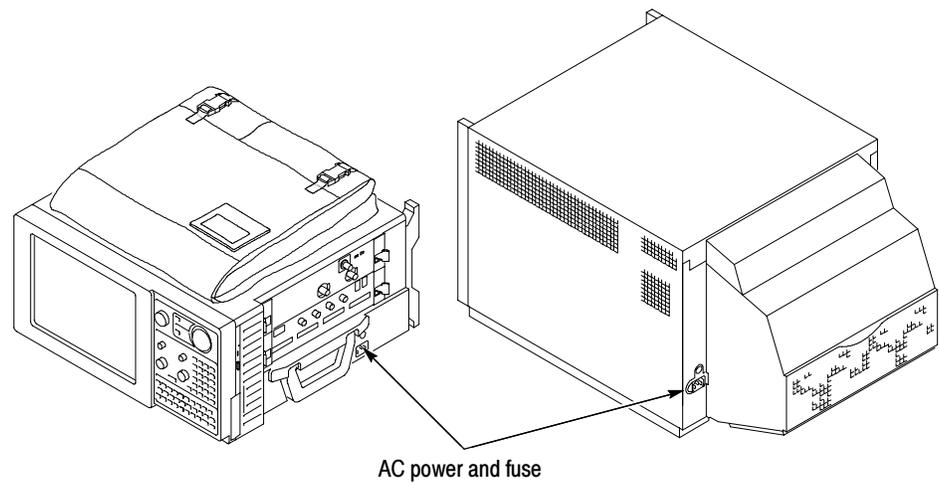

Figure 14: Line fuse and power cord connector locations
2. Connect the power cord. See Figure 14 on page 19.